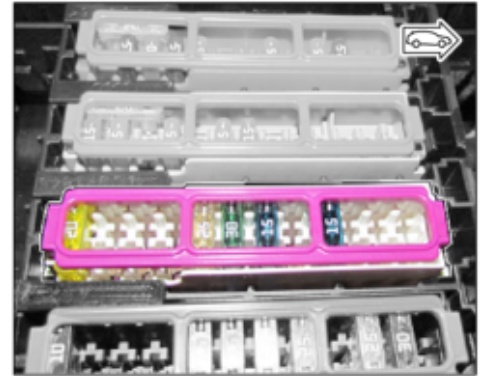

Figure 17
2.8 Check fuse assignment in fuse holder H (strip B – white ⇒ *Figure 17*) and insert missing fuses if necessary: